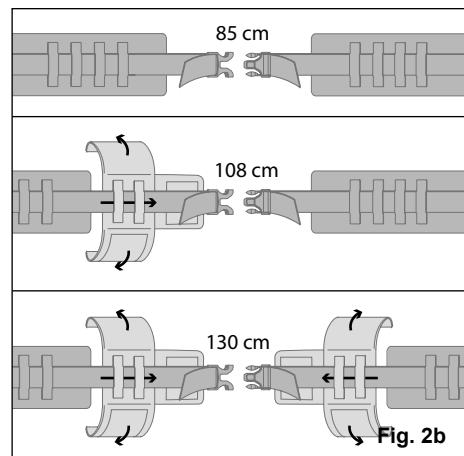

Fig. 2b
- When necessary use extensions for waist band (Fig. 2b)